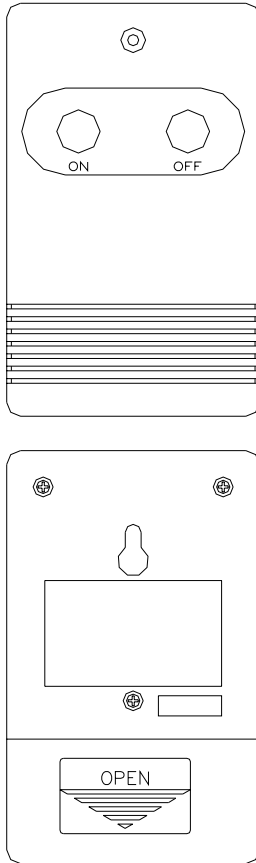

FIGURE 14
5. Press ON button located on the remote control transmitter (FIGURE 14). This will synchronize the remote control transmitter and receiver.